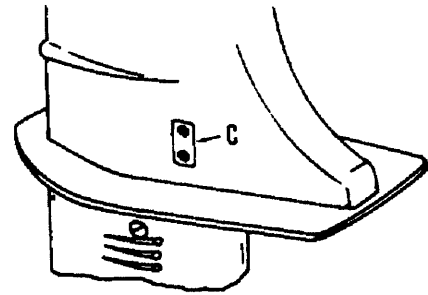
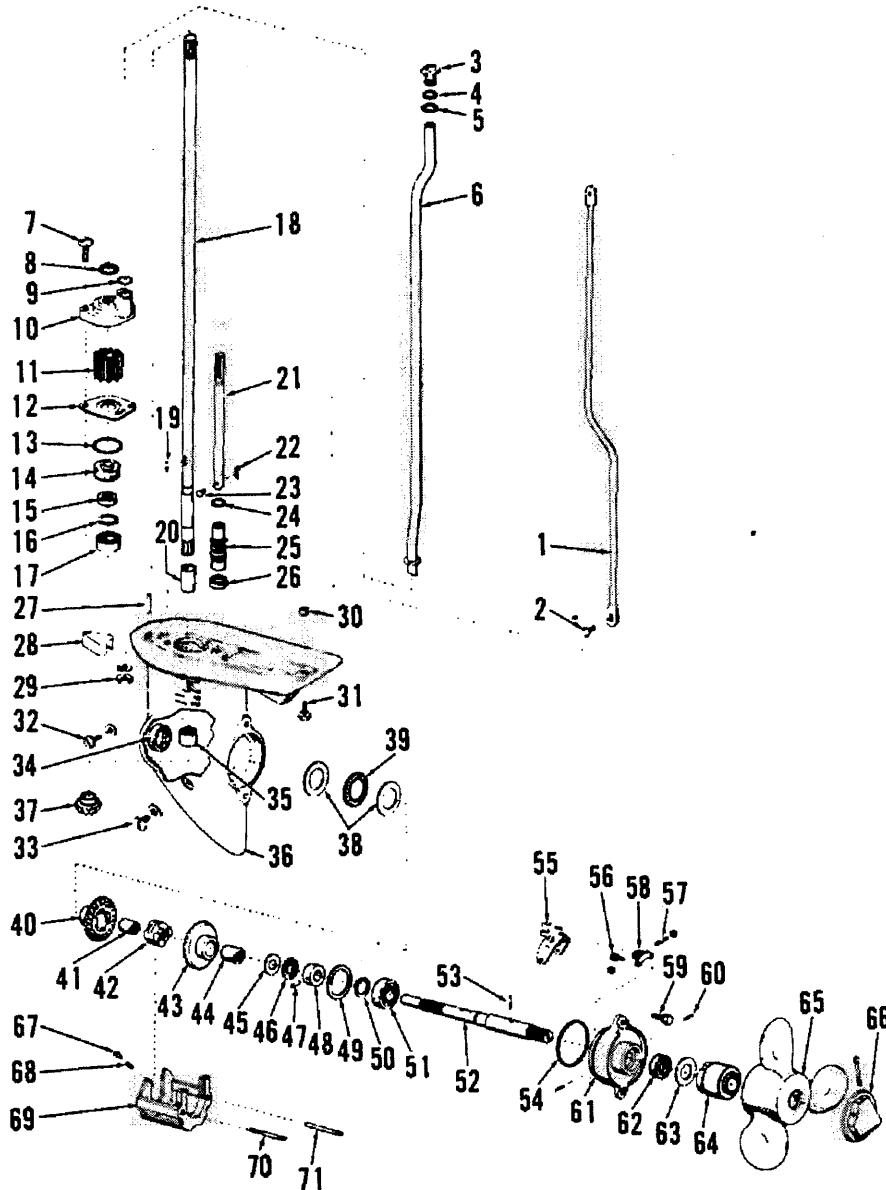

Fig. E3-31 — Remove inspection cover (C) for access to shift linkage screw.
Fig. E3-33—Exploded view of lower unit gearbox assembly. Lubricate water pump impeller (11) and water tube seal (9) with petroleum jelly when reassembling.
lower unit is provided by a cushion hub (64—Fig. E3-33) and by shear pin (53). Shear pin, Eska part 96683, should be used.
R&R AND OVERHAUL. To remove lower unit from motor leg, remove inspection cover (C—Fig. E3-31) and shift linkage screw (2—Fig. E3-33). Be careful not to drop screw in motor leg. On
Shift lower unit into neutral position. Remove water pump assembly. Be careful not to lose impeller drive pin (19—Fig. E3-33). Remove propeller, shear pin and screws (59) that secure
To remove bearing (35 - Fig. E3-33), place tool, without "C" clip, in bearing from top of gearcase and pound on end of tool. To install bearing (35), place "C" clip on tool so new bearing will be properly positioned in bore when driven in from top of gearcase.
Needle bearings (41 & 44 - Fig. E3-33) may be removed and reinstalled with the aid of an arbor press.